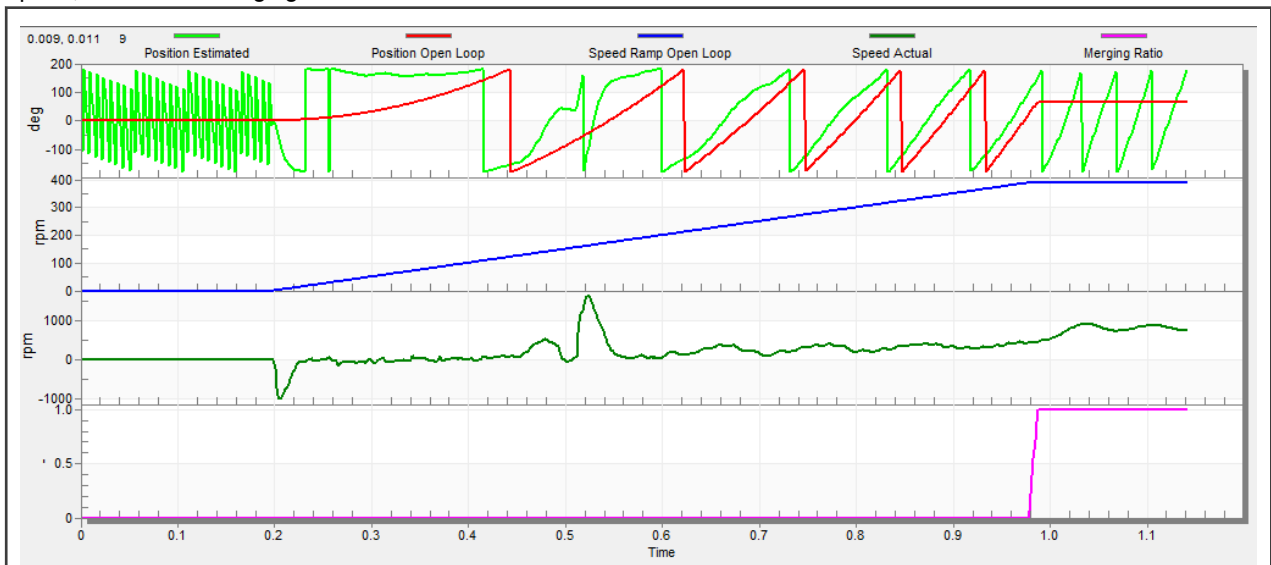

Figure 30. Motor startup
1. The start-up process can be tuned by a set of parameters located in the "Sensorless" tab. Two of them (ramp increment and current) are accessible in both tuning modes. The start-up tuning can be processed in all control modes besides the scalar control. Setting the optimal values results in a proper motor startup. An example start-up state of low-dynamic drives (fans, pumps) is shown in Figure 30.